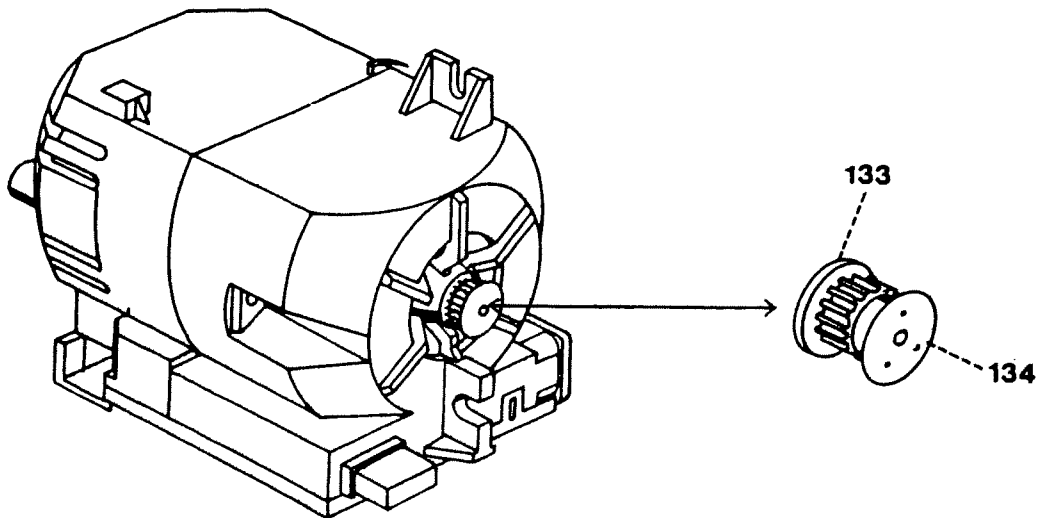

Fig. 45
- Insert two screwdrivers of the same width between pinion 133 and the motor bearing (fig. 45).